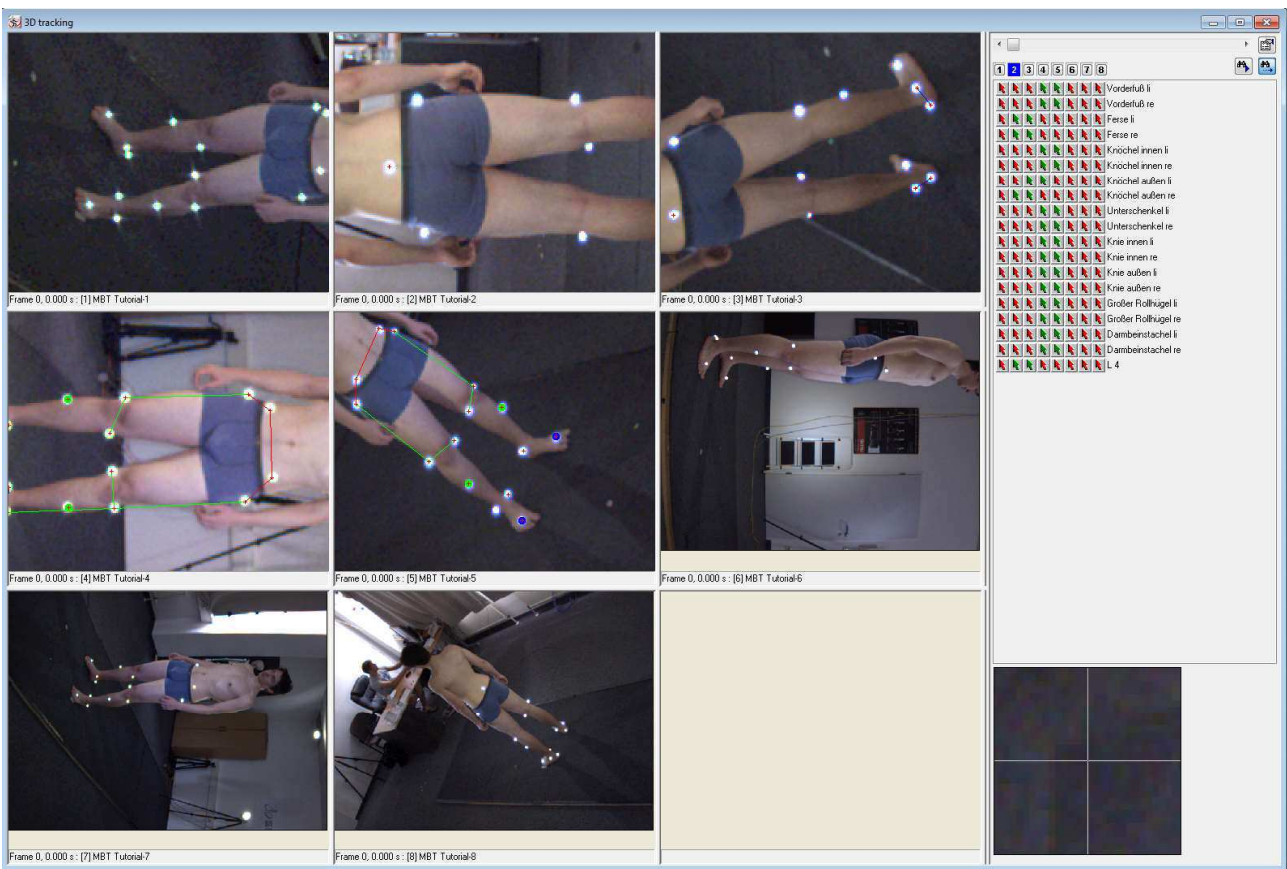

Figure 17.30: Tracking markers for static trial
- Assign each marker to the according specified point in the list on the right hand side. Assign each marker with a left-click in at least two cameras (cf. figure 17.30)
- Assign each marker to the according specified point in the list on the right hand side. Assign each marker with a left-click in at least two cameras (cf. figure 17.30).